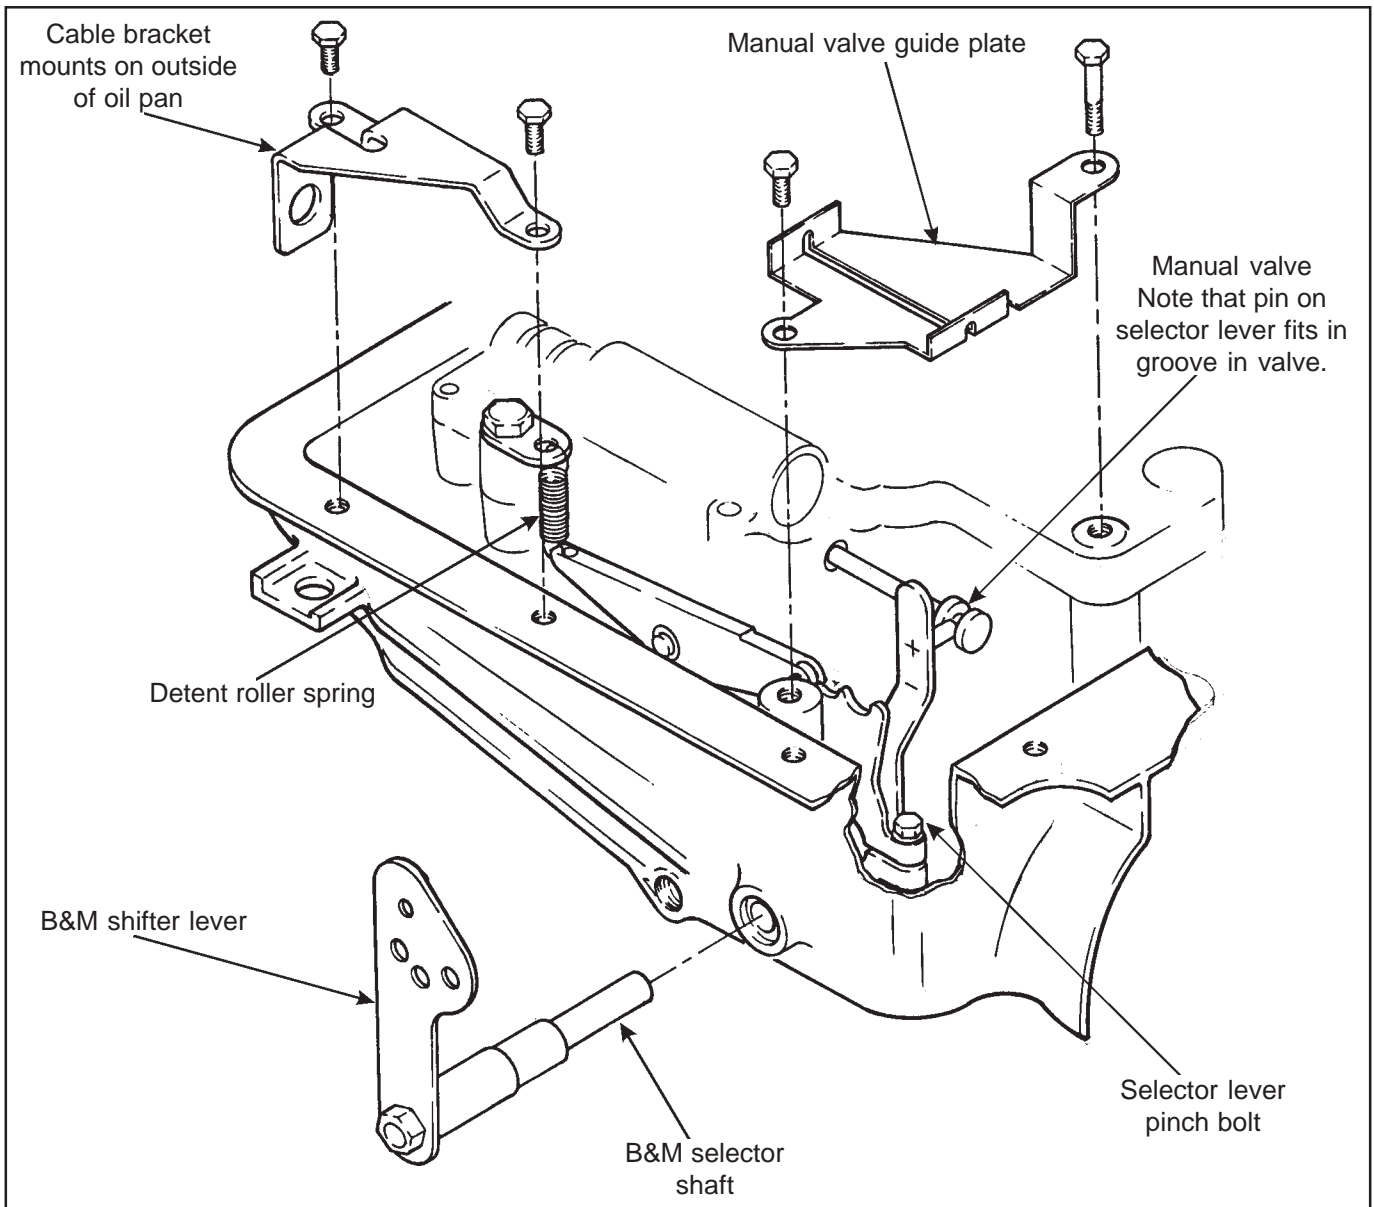

Figure 8
**STEP 27.** Remove manual valve guide plate by removing two bolts. See figure 8. Unhook and remove detent roller spring. Allow detent roller to pivot out of the way. Not how the pin on the manual valve selector engages the groove in the manual valve.
**STEP 33.** Install cable bracket in position with the two remaining pan bolts. See figure 8. Install the B&M lever onto the shaft with the lever pointing down. If your cable comes from the front (usually a rear engine car) the lever is installed pointing upwards. You will have to make your own cable bracket for this installation.